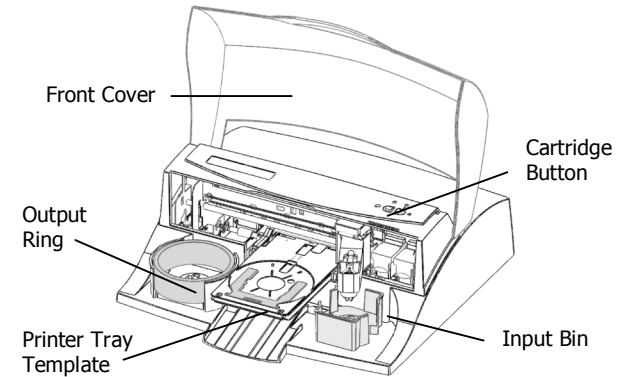

Figure 3: Adapter Kit
3. Place **Output Ring** in the center of the Output Bin on the left side of the Duplicator as shown in **Figure 3**.
4. With the **Front Cover** of the Publisher closed, press the **Cartridge Button**. The **Printer Tray** will open. Open the **Front Cover** and install the appropriate **Printer Tray Template** in the **Printer Tray** as shown in **Figure 3**. The front of the Template has molded tabs that fit into locating slots found toward the front of the **Printer Tray**. When properly installed, the metal clamp moves forward to hold the card in place as the **Printer Tray** retracts into the printer.